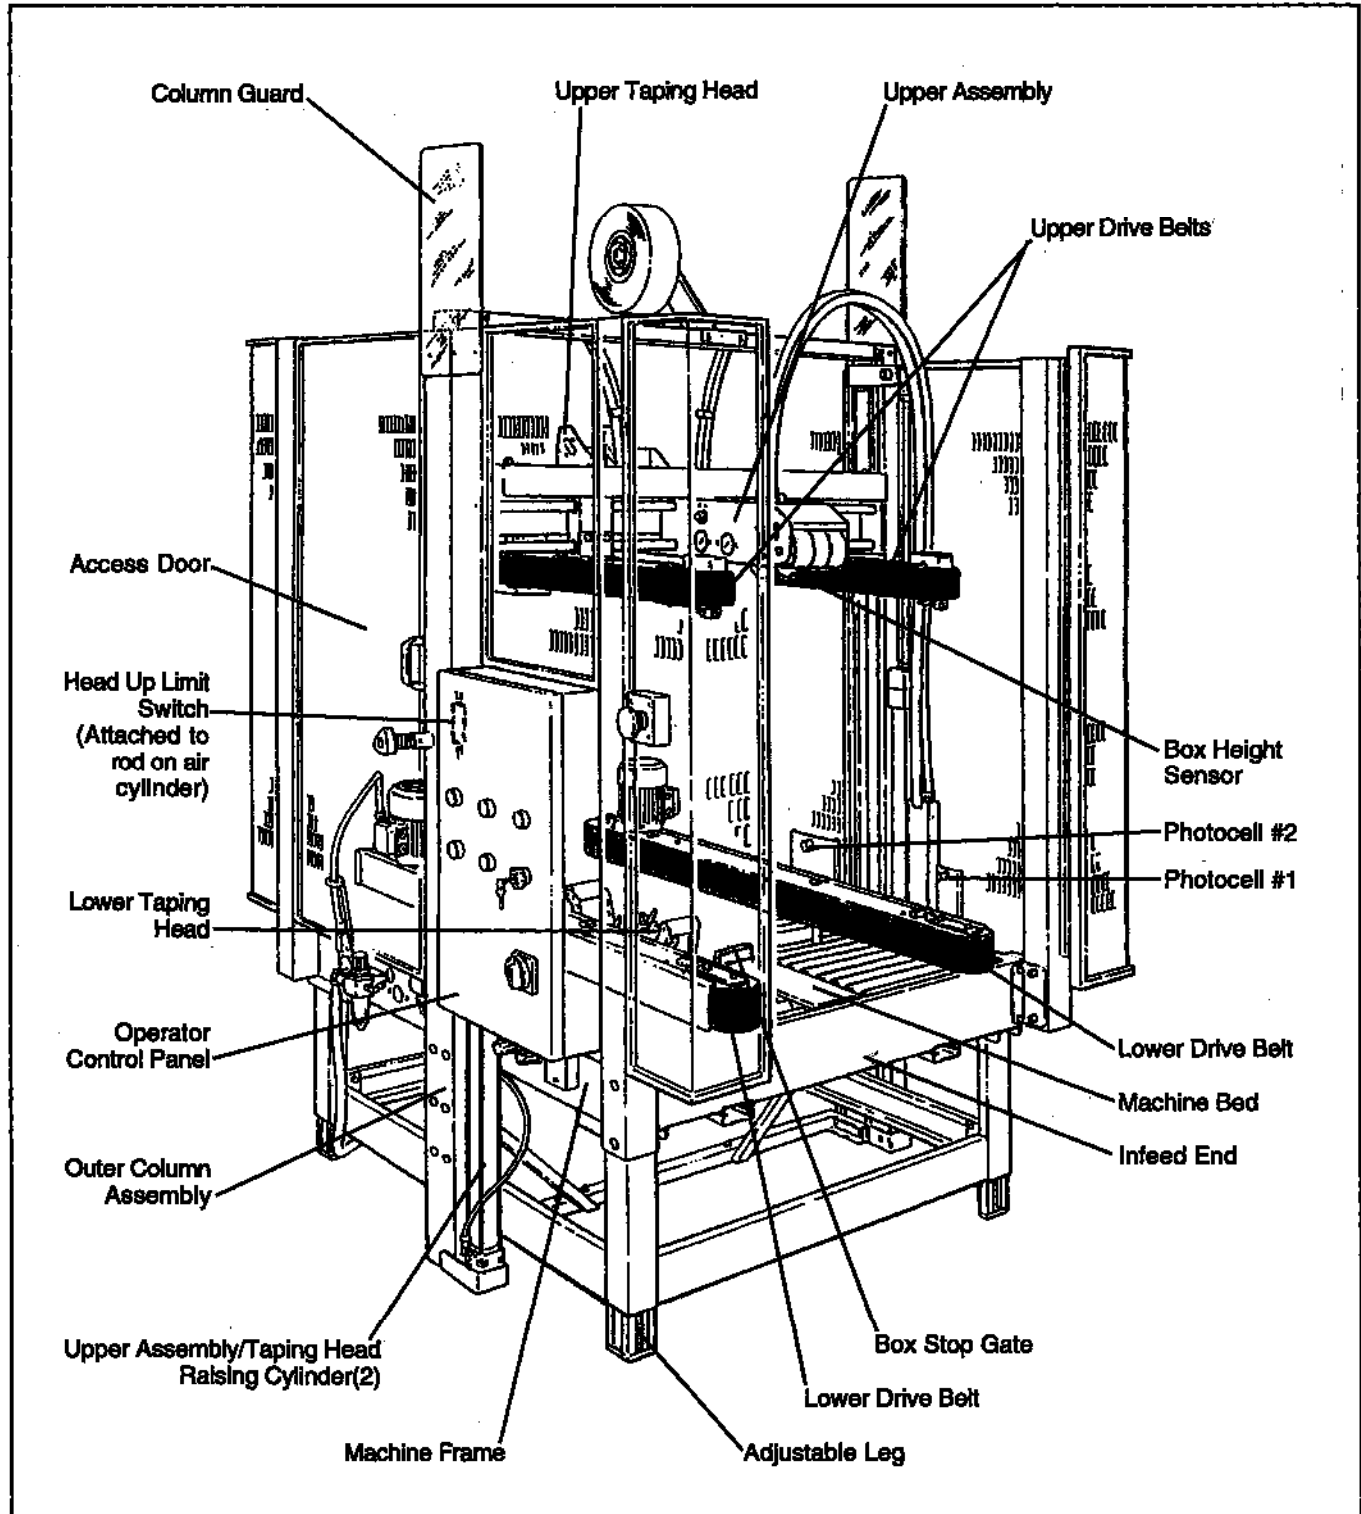

Figure 3-1 – Case Sealer Components
The following instructions are presented in the **order recommended** for setting up and installing the case sealer. Following them step by step will result in an installation in your production line that best utilizes the many features built into the case sealer. Refer to Figure 3-1 and 3-2 to identify the various components and controls of the case sealer.
Refer to Figure 3-1 and 3-2 to acquaint yourself with the various components and controls of the case sealer. Also see Section II, page 6 for taping head components.
9. Both the upper and lower taping heads utilize extremely sharp knife blades for tape cut-off. The blades are located under the orange blade guard which has the "WARNING – SHARP KNIFE" label. Before loading tape, refer to Section II, Figures 3-1 and 3-2 on page 6, to identify the blade location. Keep hands out of this area except as necessary to service the taping heads.